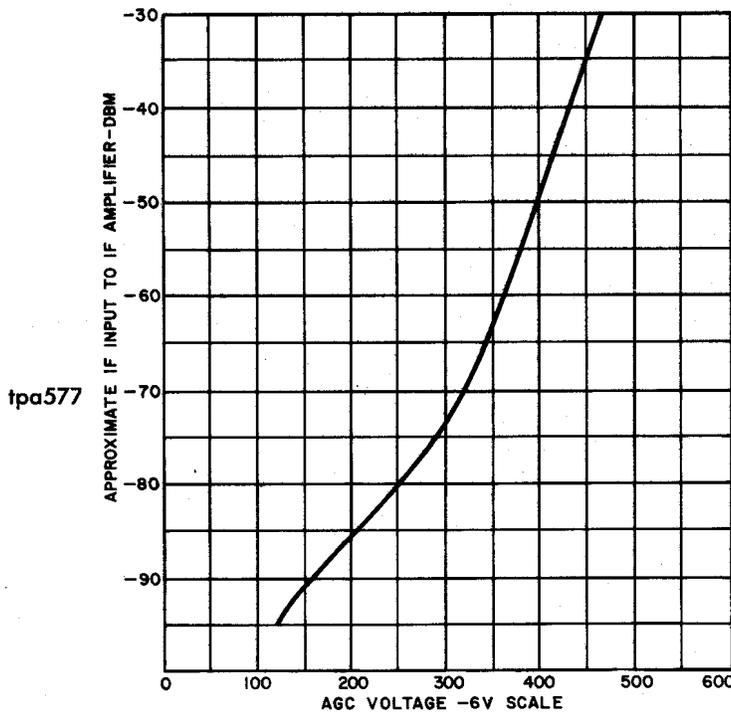

Fig. 1—Typical TL-1 Receiver—AGC Characteristics—Graph
3. These indications will be zero if the beat-oscillator (BO) klystron is not operating. This could be due to improper adjustment of the receiver automatic frequency control (AFC).
5. Figure 1, 2, or 3 may be used to approximate the receiver input levels from the automatic gain control (AGC) meter indications, depending on which of the units is provided. The three available units are as follows:
- (a) The J99262G receiver IF and baseband unit. See Fig. 1.